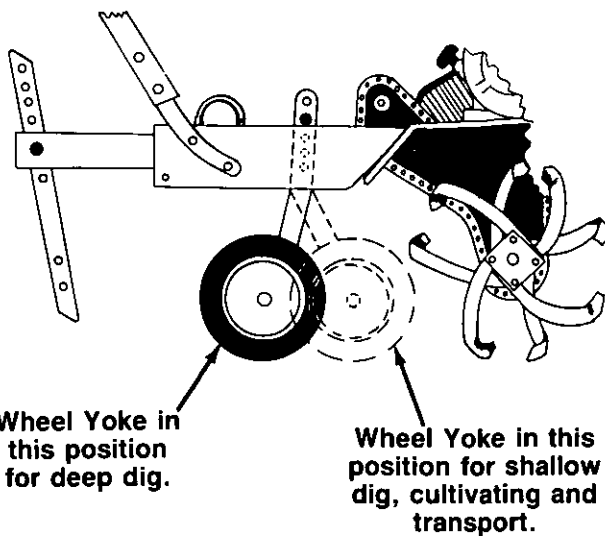

FIGURE 23.
- 1. Wheel Yoke Adjustment:** Place wheel yoke so that the wheels are forward (nearest point between wheels and tines) for shallow tilling, cultivating and transport. This will also increase the forward speed. See figure 23. Turn yoke around (farthest point between wheels and tines) for deep tilling. Forward speed will decrease. See figure 23.